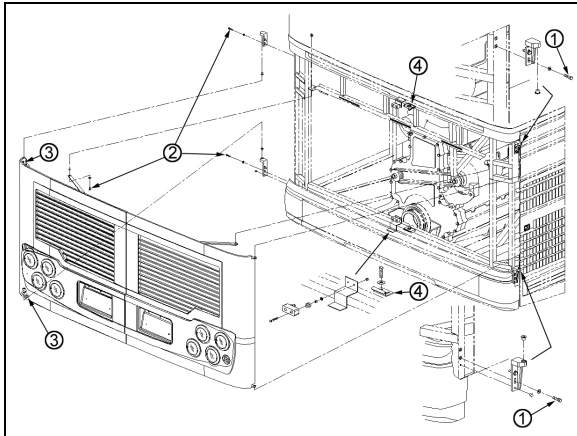

FIGURE 97: ENGINE COMPARTMENT DOORS
1. Loosen the bolts, (1, 2 Fig. 97) holding the hinge to the vehicle structure to shift the door "UP or DOWN".
2. Loosening the bolts (3, Fig. 97) allows the door to be shifted "LEFT or RIGHT" and "IN or OUT".
To adjust the latch mechanism (4, Fig. 97) and the striker pin: